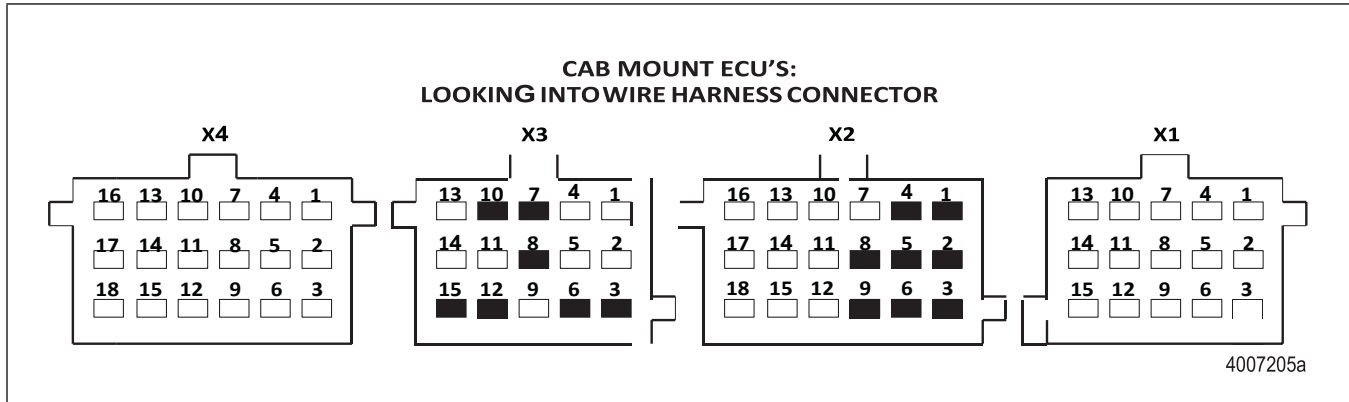
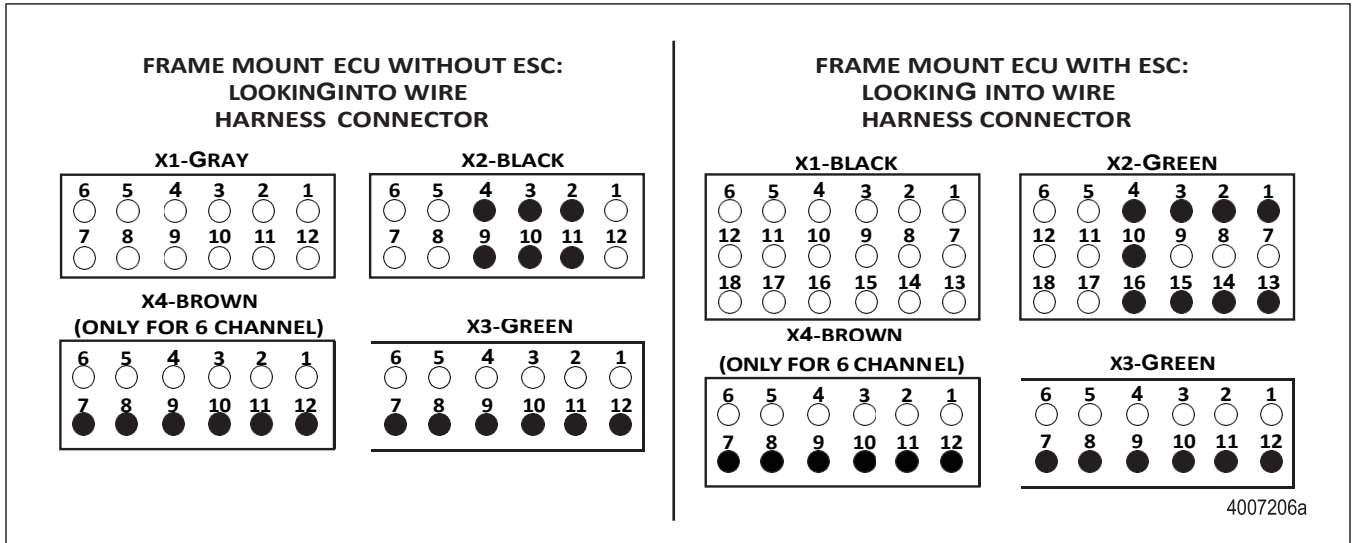

Figure 3.14
Figure 3.15
- Take measurements at the ECU harness to check the modulator and harness together. Figure 3.14 and Figure 3.15.